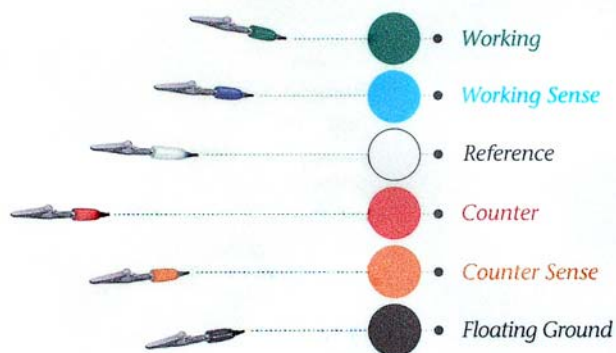

Figure 1: Gamry color-coded leads.
(CS) lead connected to the counter (see Figure 1). The Reference is not critical in this experiment, but can be added to act as a “spectator” electrode to the Working-Counter coupling.